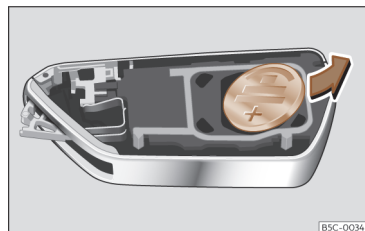

Fig. 67 Vehicle key: removing the battery.
- Remove the battery from the compartment with a suitable fine object >>> Fig. 67.
- Insert the new battery and press it into the battery compartment >>> ①.